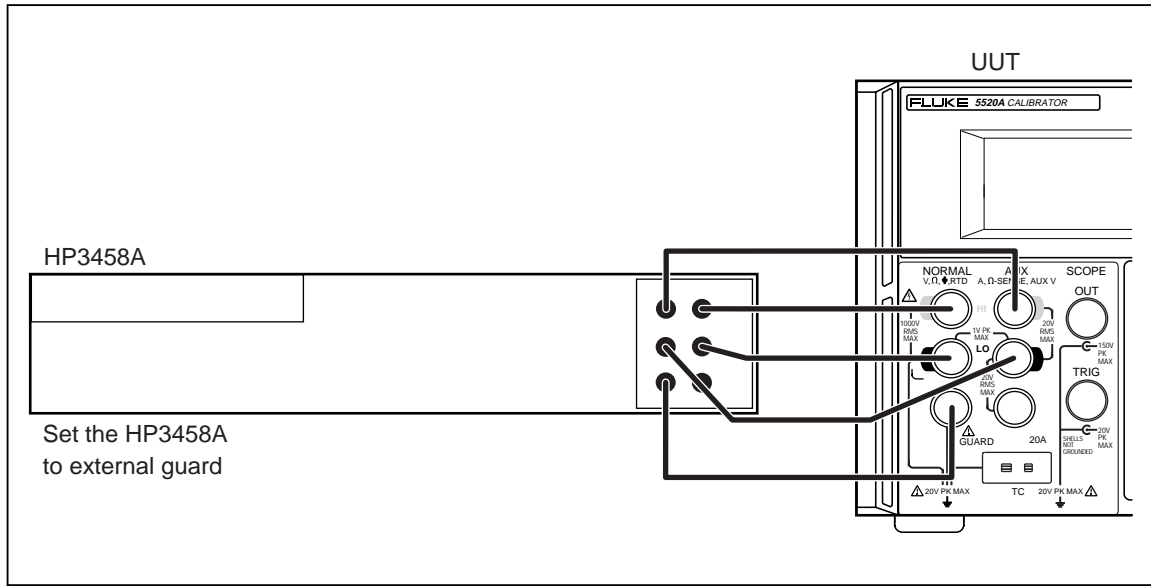

Figure 3-10. Four-Wire Resistance Connection
3. Follow the prompt on the Control Display to connect the DMM to the UUT for 4-wire ohms measurement as shown in Figure 3-10.